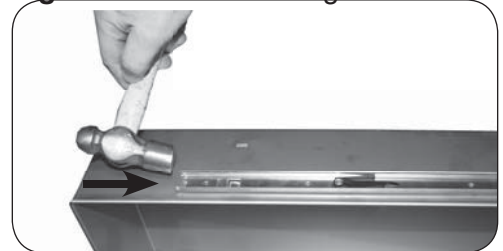

Fig. 3-4 Reinstall runners
3. Align each runner over the alternate notches and use the hammer to gently tap into place (see Fig. 3-4).